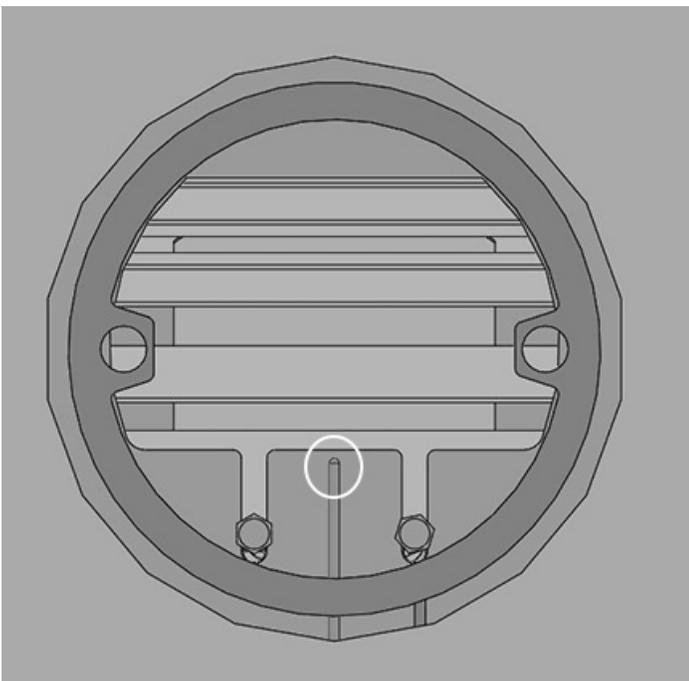

Figure 6: Thermocouple out.
The tip of the thermocouple will now be out of the flue opening while cleaning the chimney. Figure 6
2. Lift the Flue Gas Agitator and pull towards the front of the stove Figure 6